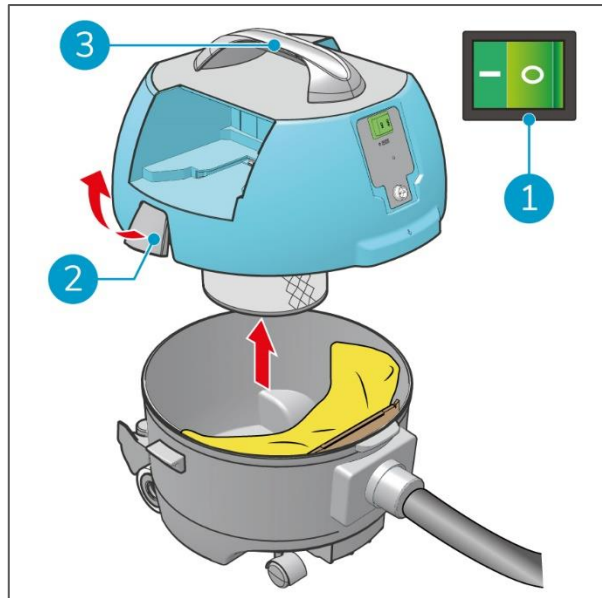

Figure 23
1. Turn off the i-vac 9B® with the ON/OFF switch (Figure 23, pos 1).
3. Release the latches (Figure 23, pos 2).
4. Lift the head by the handle (Figure 23, pos 3).